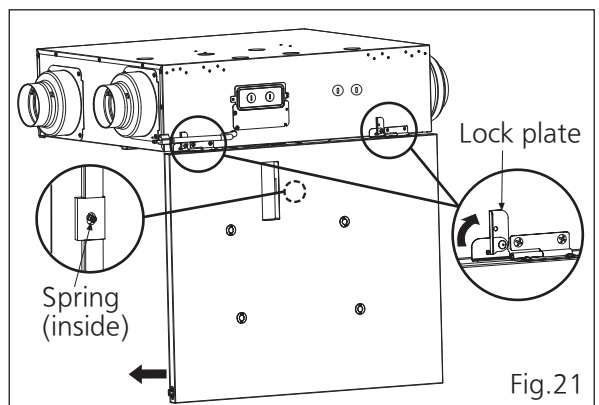

Fig.21
- (1) If not convenient for maintenance, can also rotate the lock plate at the hinge and remove the frame cover. (Fig.21)
- (2) There is a spring on the inside of frame cover, please do not damage or deform it, otherwise, the ERV may not operate. (Fig.21)